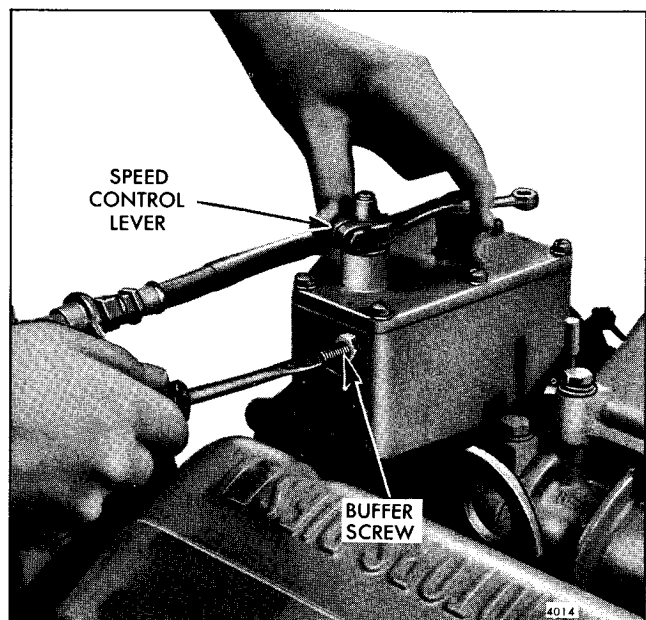

Fig. 7 - Adjusting Buffer Screw
1. With the engine running at normal operating temperature, turn the buffer screw in (Fig. 7) so it contacts the differential lever as lightly